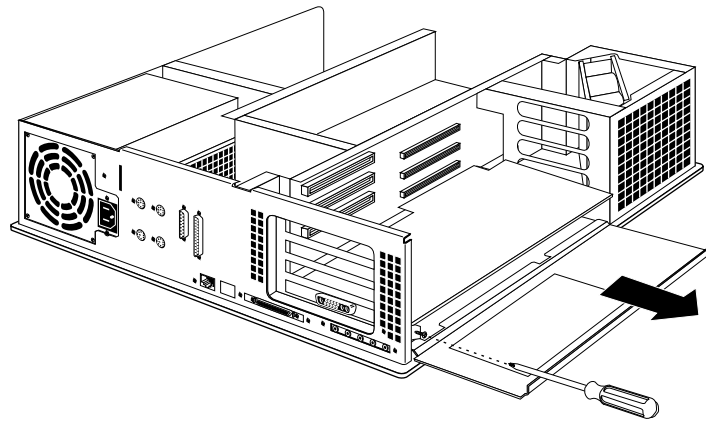

Figure 2-7 Removing screw from XL graphics metal extension
4. Remove the screw attaching the board to the system slot as shown in Figure 2-7.